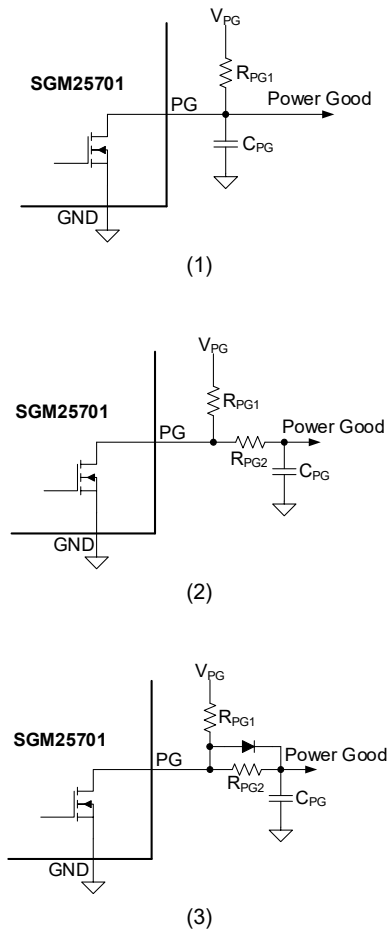

Figure 3. Adding Delay to the Power Good Output Pin
The PG pin remains high during the turn-on period until the V_{IN} increases above $\approx 1V$. At this time, as V_{IN} increases, PG continues to pull low. When the V_{OUT} increases to within 1.4V of the SENSE pin voltage, ($V_{DS} < 1.4V$), PG is switched high. If V_{DS} of M_1 increases above 2.8V, PG switches low. PG requires a pull-up resistor and the pull-up voltage (V_{PG}) may be as high as 70V for transient capability up to 80V. If PG requires a delay, please refer to Figure 3. Capacitor C_{PG} adds a delay to the rising edge in Figure 3 (1). The slew rate of the rising edge is determined by $R_{PG1} + R_{PG2}$ and C_{PG} , and the slew rate of the falling edge is determined by R_{PG2} and C_{PG} in Figure 3 (2). Add a diode as shown in Figure 3 (3) to achieve an equal slope of rising edge and falling edge. For most applications, the typical values in Figure 3 (2) are recommended: $R_{PG1} = 100k\Omega$, $R_{PG2} = 0\Omega$, $C_{PG} = 1\mu F$.